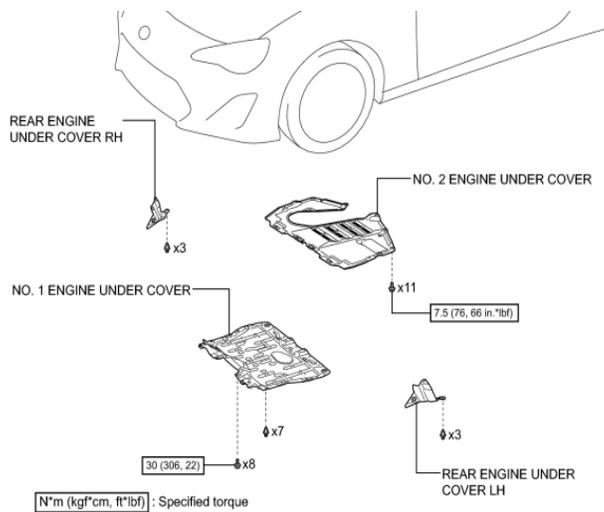

Fig. 3-7
- (f) Install the four under engine covers (Fig. 3-7). Using a 10mm socket, torque the bolts to 7.5 N•m. Using a 12mm socket, torque the bolts to 30 N•m. Install plastic pop-in fasteners.